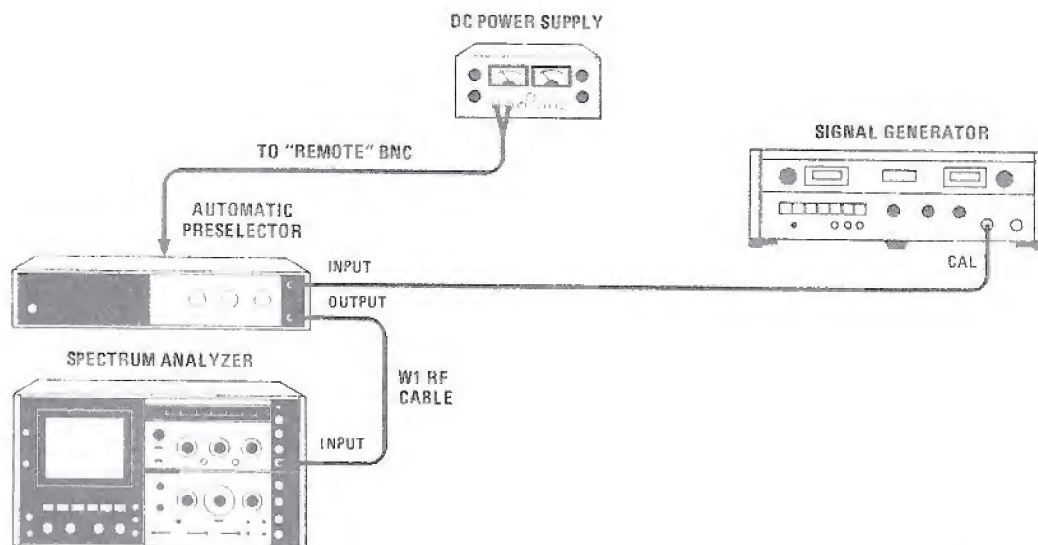

Figure 4-1. Out-of-Band Rejection Test Setup
1. Connect test setup as indicated in figure 4-1 and set controls as follows: